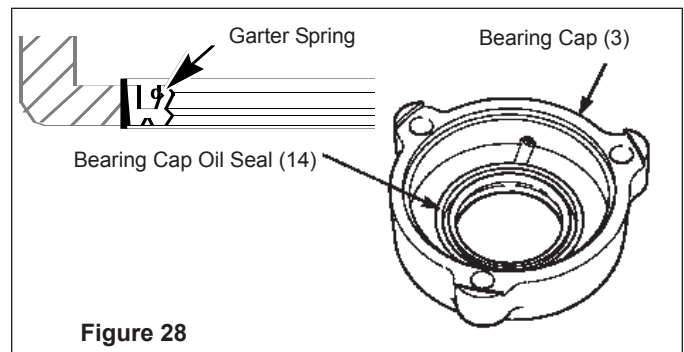

Figure 28
- Lightly grease new bearing cap oil seal (14) and install into bearing cap with lip up, so that it will face the bearing. See Figure 28.